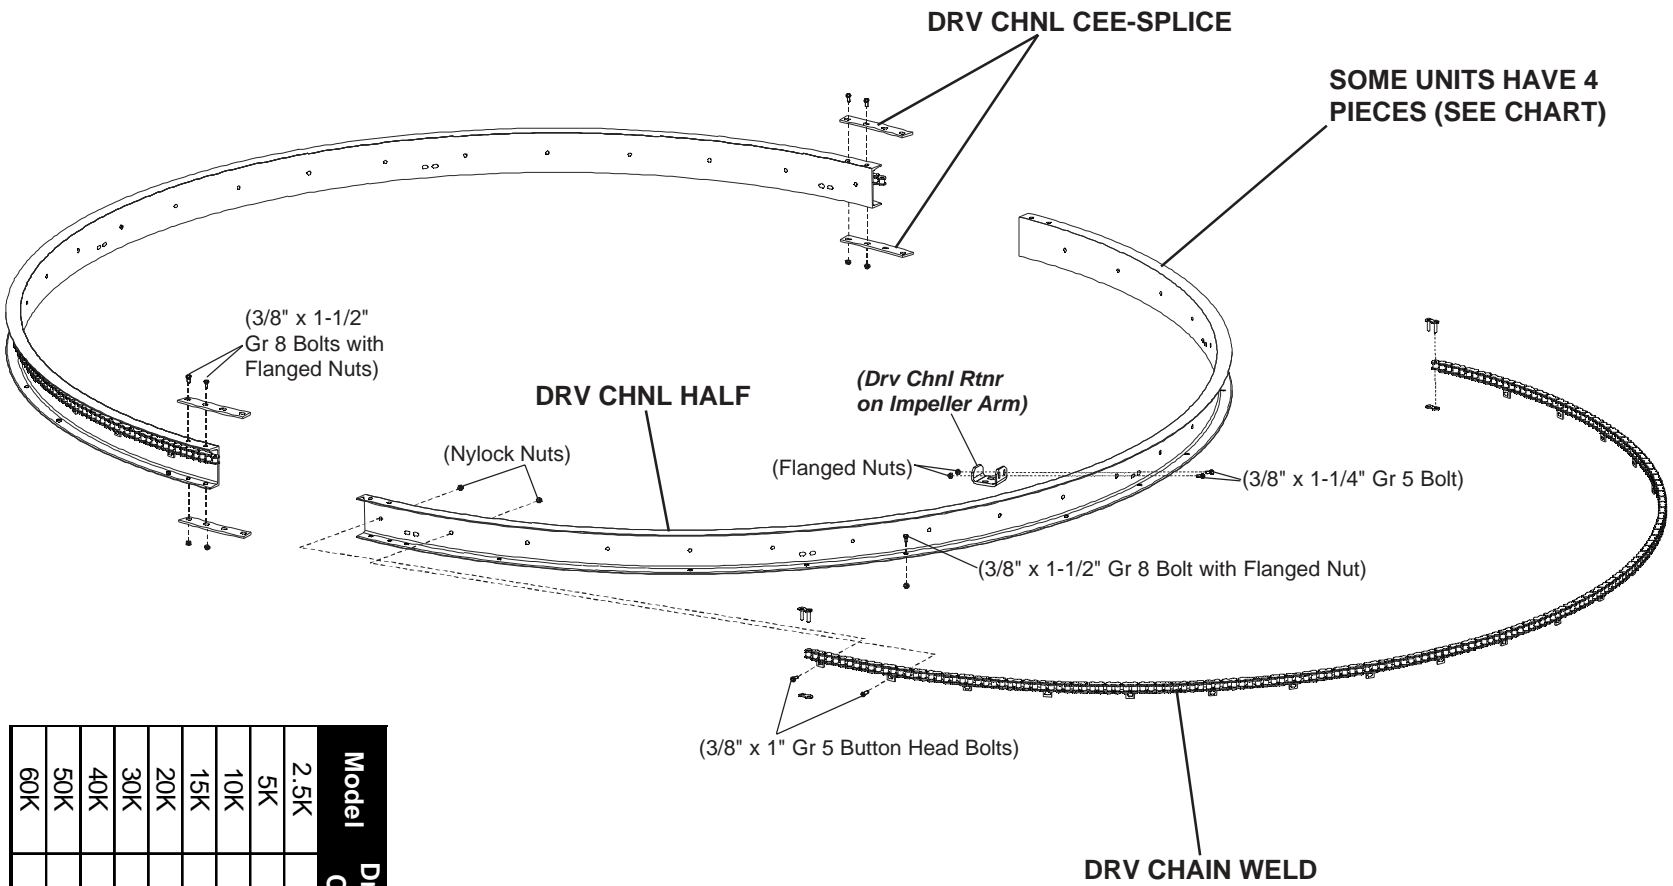

Fig. 9-3
7. Locate the **DRIVE CHAIN WELDment** and wrap it around the Drive Channel. The weld tabs are located below the chain. The chains are installed using 3/8" x 1" Gr. 5 Button Head Bolts and Nylock Nuts with the bolt heads toward the center of the Impeller. Do not tighten the bolts at this time. (See Fig. 9-3)
8. The chain must be kept tight against the channel as it is installed. Pull the ends of the Drive Chain together, and connect the end of the chain using the provided **CONNECT LINKS** or **HALF LINKS** as is required for the installation. A certain amount of tensioning is allowed within the **DRV CHNL CEE-SPLICES**, which are installed at this time using 3/8" x 1-1/4" Gr. 5 Bolts and Flanged Nuts. Install the nuts on the inside of the channel. If additional adjustment is required, please review the next paragraph. Align the ends of the Drive Channels, and verify the tension of the chain, then tighten the Channel Splice bolts. (See Fig. 9-3)
10. Locate and install the *OUTER WEBS* between the main Impeller Arms using 3/8" x 1-1/2" Gr. 8 Bolts and Flanged Nuts. The end of the Outer Web which passes over the Impeller Arm bolts to the outside of the next part. Secure this connection with 3/8" x 1-1/4" Gr. 5 Bolts and Flanged Nuts. (See Fig 9-3 & 9-1)